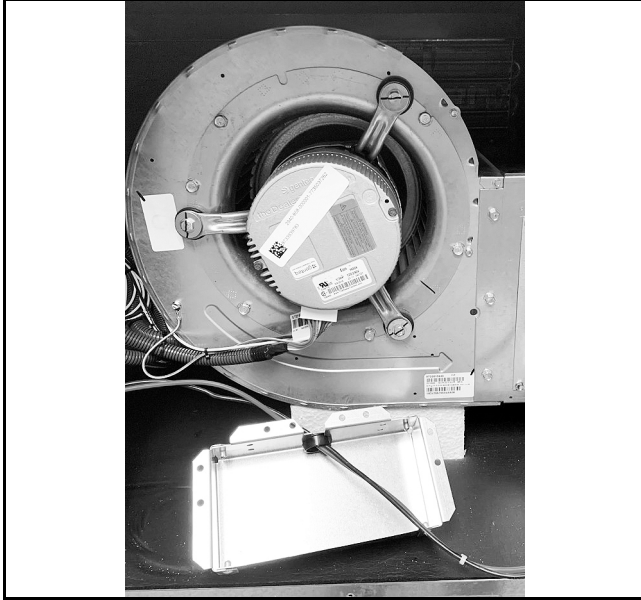

Fig. 12 Wire Routing
1. Ensure that the high-voltage Red and Black wires originating from the Electric Heat control box are routed through the grommets in the Electric Heat Element cover as show in Fig. 12.